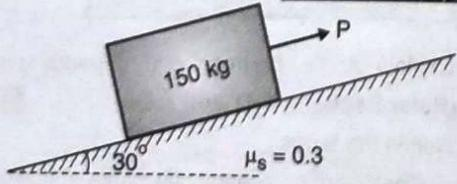

Fig. Q. 2
- Q.2 Determine the range of 'P' for the limiting equilibrium of block of mass 150 kg rest on an inclined plane as shown in Fig. Q. 2.